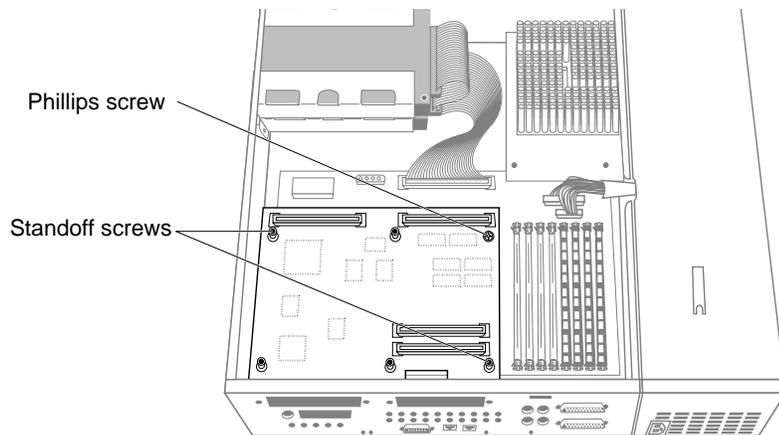

Figure 2-2 Removing the Screws From the Graphics Board
- Use the open-ended wrench to unscrew two standoff screws (tall, hexagonal posts) from the graphics board. (See Figure 2-2.)